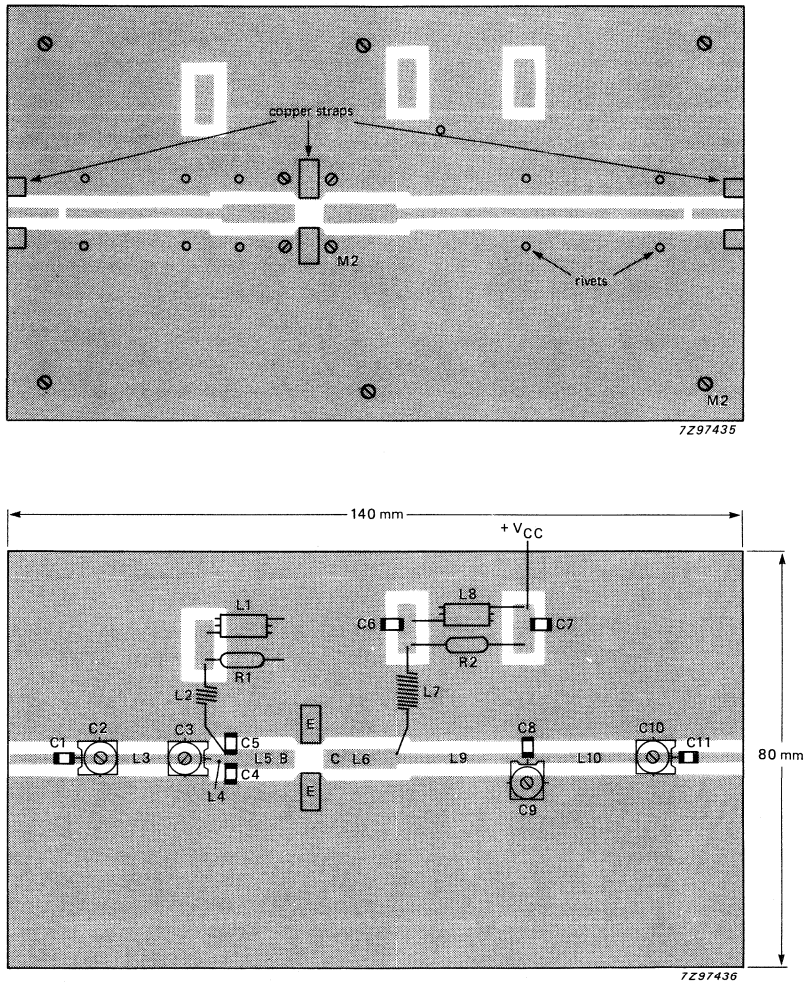

Fig. 6 P.c. board and component lay-out for 900 MHz class-B test circuit.
** Device mounted on a printed circuit board (see Fig. 6).
The device is capable to withstand a full load mismatch ($VSWR = 50$; all phases) at $P_L = 1,5 \text{ W}$ up to a supply voltage of $15,5 \text{ V}$ at $T_a = 25 \text{ }^\circ\text{C}$. Device mounted on a printed circuit board (see Fig. 6).